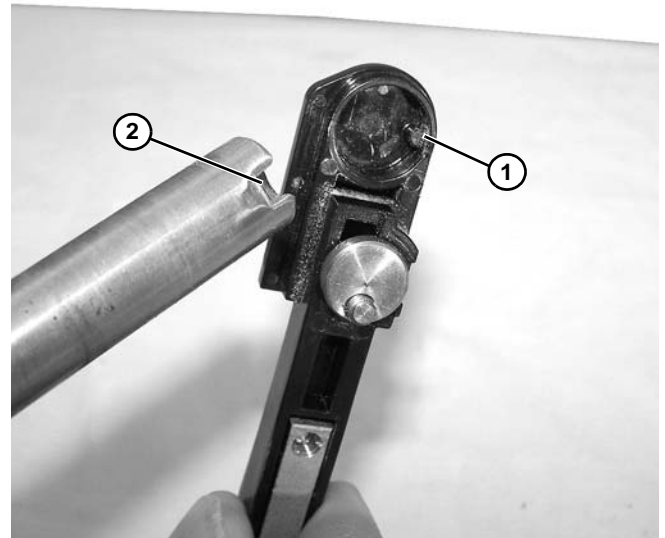

**Figure 44**
1. Assemble the drive spindle (**Figure 44, item 1**) onto each tail plate as shown and raise drive spindle assembly T-bars (**Figure 44, item 2**) to the conveyor frame.